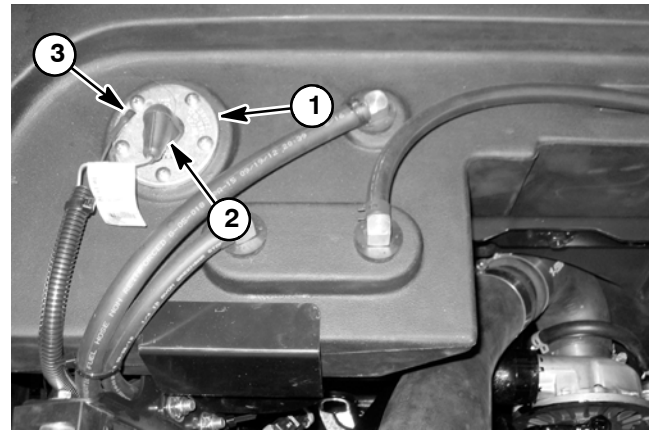

Figure 74
Two (2) styles of fuel senders have been used on Groundsmaster 4000-D and 4010-D machines. Early production machines are equipped with a pivoting float design that has two (2) wire harness terminals (shown in Fig. 74). Later machines have a sliding float design and a single harness connector.